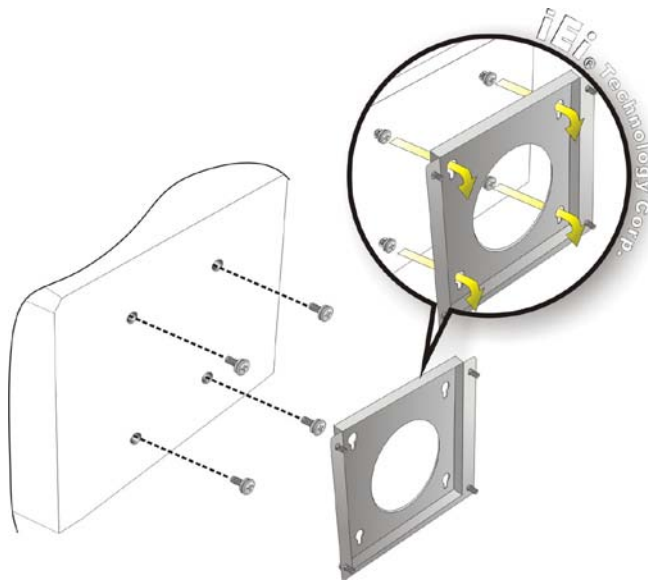

Figure 3-27: Mount the Chassis
Step 11: Insert the four monitor mounting screws provided in the wall mounting kit into the four screw holes on the rear panel of the monitor and tighten until the screw shank is secured against the rear panel (**Figure 3-27**).
Step 13: Carefully insert the screws through the holes and gently pull the monitor downwards until the monitor rests securely in the slotted holes (**Figure 3-27**). Ensure that all four of the mounting screws fit snugly into their respective slotted holes.